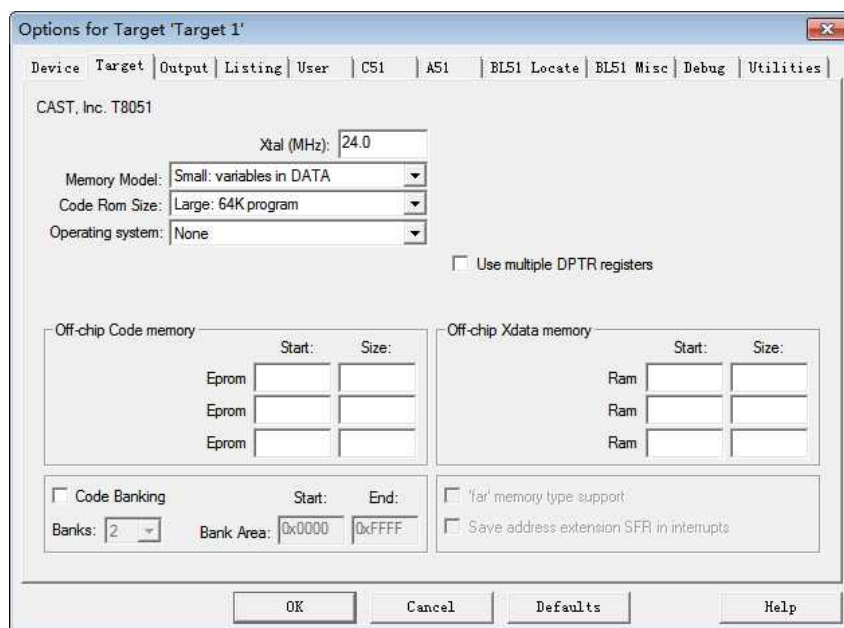

Figure 17. Options for Target 'Target 1' Screen
- Step 3, return to Keil Project screen, select *Target Options...* screen(click the icon as shown in the red circle in the below figure), The window *Options for Target 'Target 1'* pops up as shown in Figure 17.